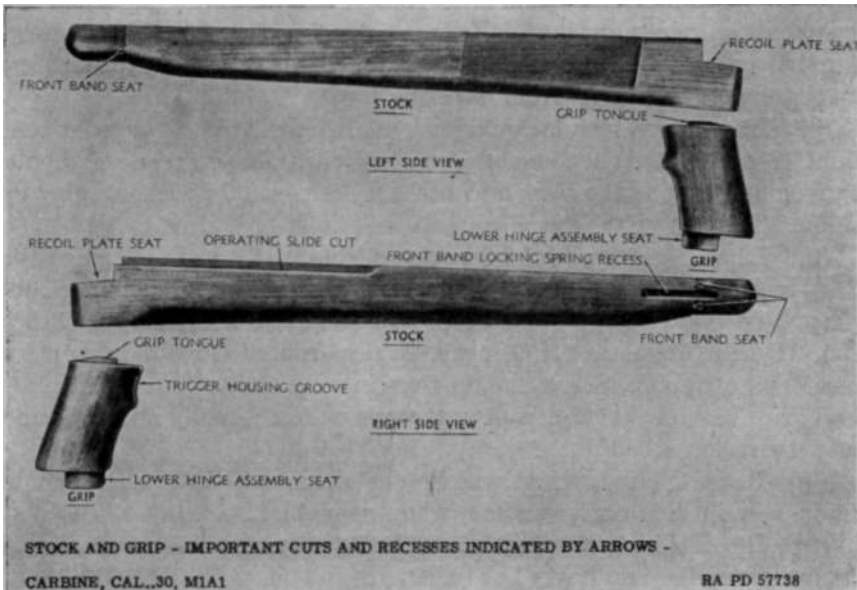

Figure 61. Stock and grip — carbine, cal. .30, M1A1.
c. STOCK (M1A1) (figs. 61 and 62.) (1) Inspect hand guard and parts common with M1 stock, as prescribed in *b* above.
(2) Inspect grip for looseness on stock and for cracks. Grip should be rigid with stock and no twist should be possible when assembled.
(3) Inspect stock extension for smoothness of hinge action and positive locking when extended and when folded. The extension should be rigid and without shake when extended with butt plate rigidly at right angles to the bars. When swung to the left, the lock should cam out of the slot in the locking nut, and the extension should pivot smoothly about the hinge screw through an arc of approximately 180° to lie flat against the left side of the stock. When the extension is pressed flat to the stock, the lock should slip into the slot in the locking nut and the butt plate should pivot on the bar ends, so that the extension will lie locked close to the stock without looseness or shake. If shake is present in either position, a worn locking lug or locking nut, a loose hinge screw, or a broken hinge spring is indicated. If pivoting is jerky, or binding is apparent, burs on locking lug or in slot of locking nut or bent bars are indicated. If butt plate is loose on bars or fails to pivot under spring tension, burs or a damaged butt plate spring are indicated.